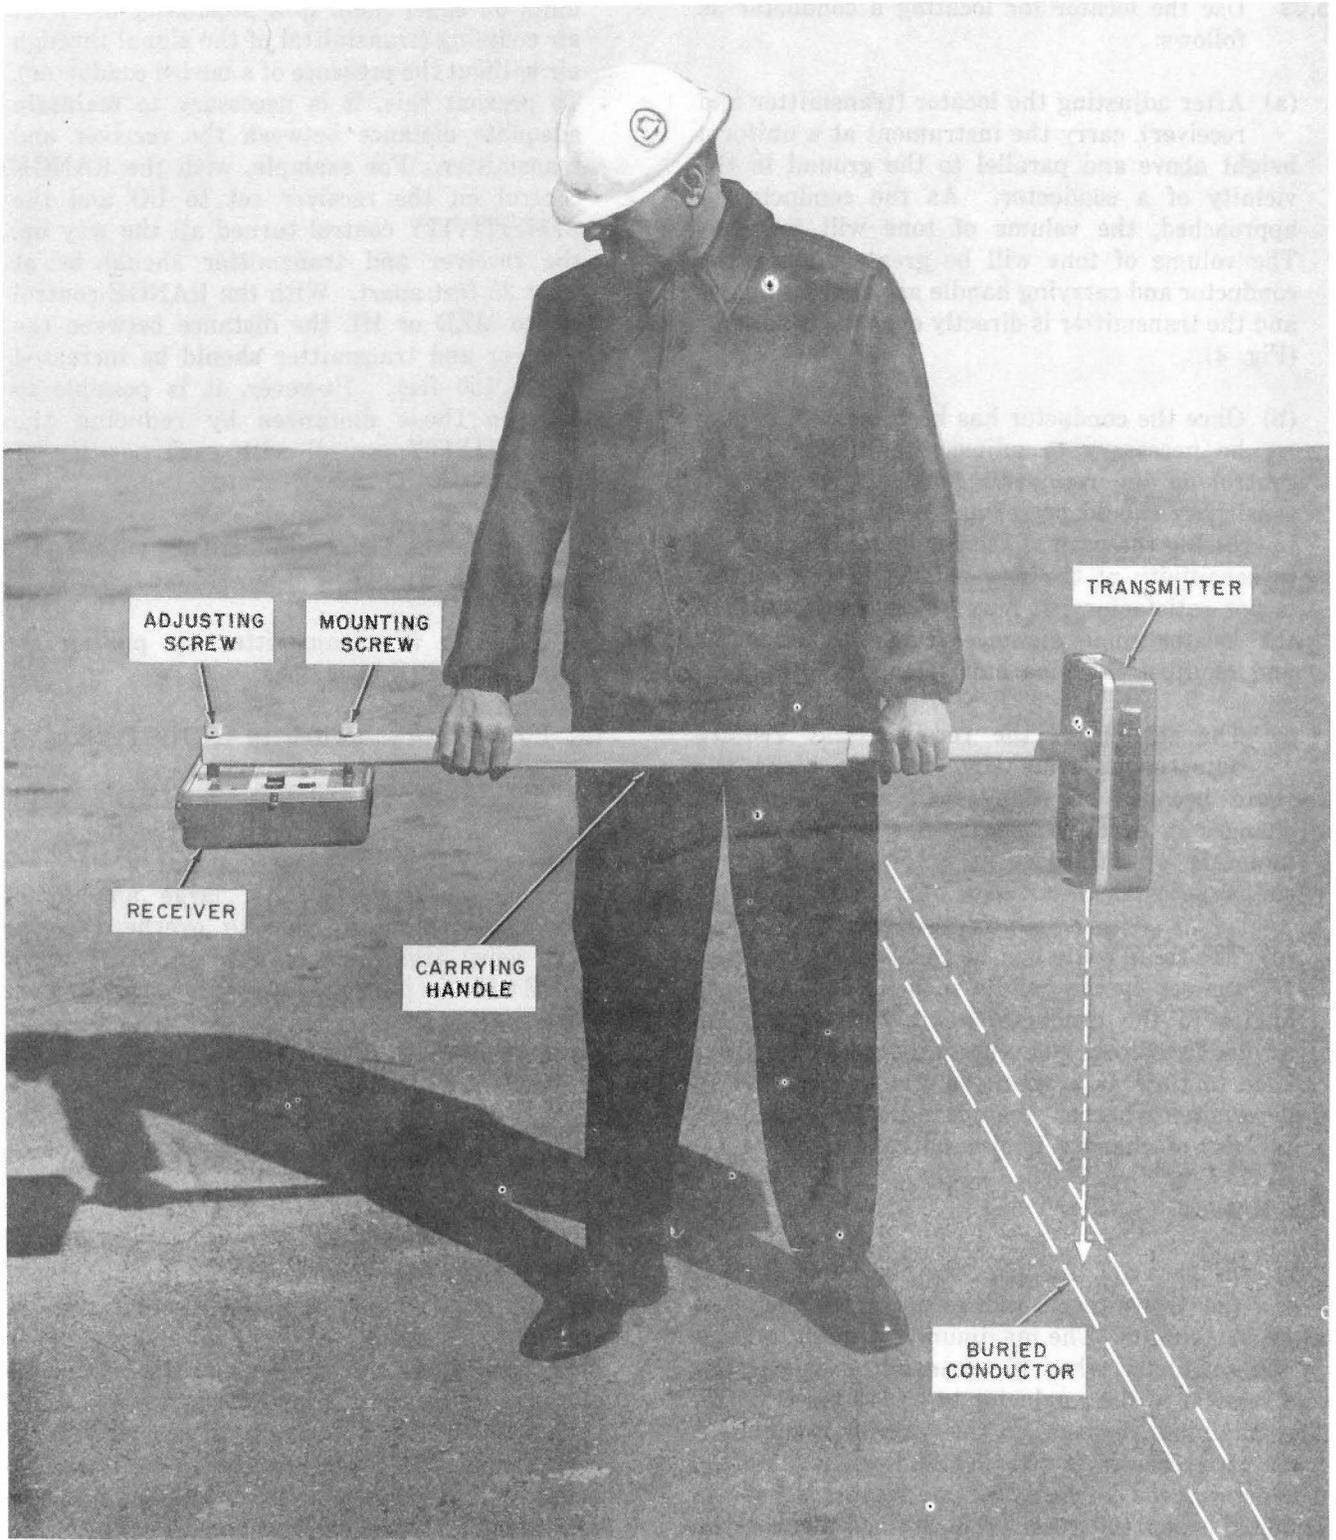

Fig. 4—Inductive Method of Operation—ON Handle
**5.01** Assemble the transmitter and receiver on the ends of the carrying handle as shown in Fig. 4. The transmitter is secured to the carrying handle with one knurled head screw. The receiver is secured to the handle with a knurled
(a) After adjusting the locator (transmitter and receiver), carry the instrument at a uniform height above and parallel to the ground in the vicinity of a conductor. As the conductor is approached, the volume of tone will increase. The volume of tone will be greatest when the conductor and carrying handle are at right angles and the transmitter is directly over the conductor (Fig. 4).
(d) The cable route can be followed by carrying the set by the handle with its axis at right angles to the conductor route (Fig. 4). It is advisable to cross and recross the conductor from time to time as a check on the tracing and to determine whether readjustment is necessary because of changes in ground conditions.